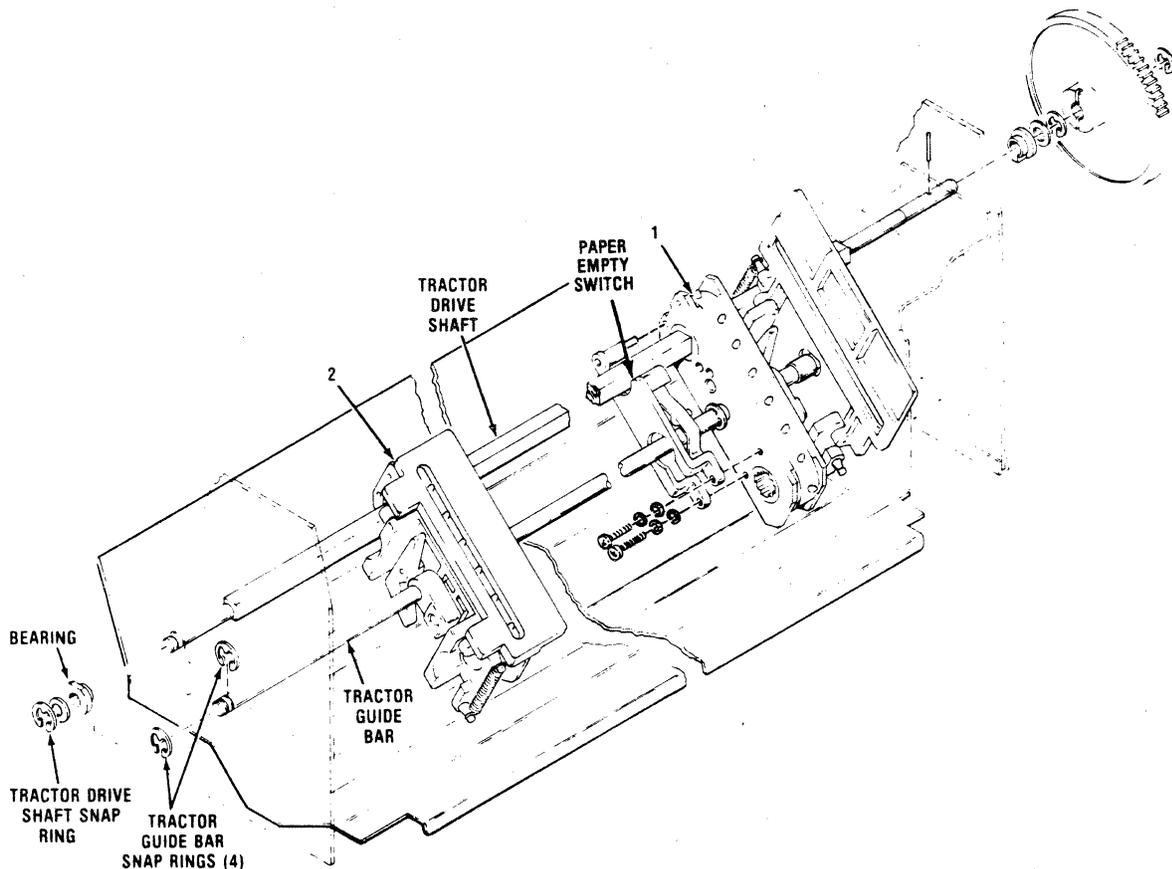

Figure 3-20 Removal/Replacement, Tractor Drive Assemblies
The left and right tractor assemblies, items 1 and 2 of Figure 3-20, are located on the tractor drive shaft and the tractor guide bar. The tractors are removed using a snap ring tool. To remove the
tractors, refer to Figure 3-20 and perform the following steps:
5. Remove the tractor drive shaft snap ring and washer from the left end of the shaft (ring/washer are labeled in Figure 3-20).
6. Slide the bearing labeled in Figure 3-20 to the left, causing the drive shaft to drop to the side-frame access hole below.